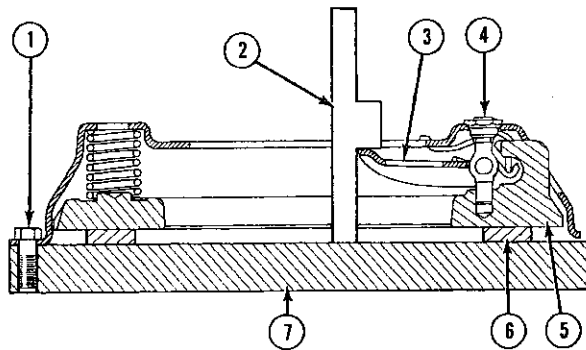

FIG. I-11—CLUTCH MOUNTED ON ADJUSTING FIXTURE
a. Place the proper thickness spacers between the pressure plate face and the clutch adjusting fixture. Locate the spacers under the pressure plate fingers and at the center of the pressure plate face as shown in Fig. I-11.